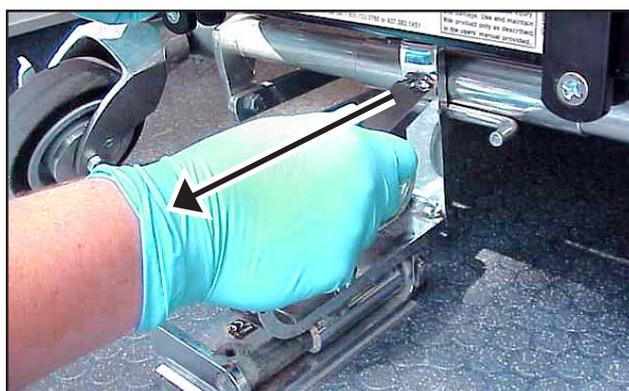

Figure 6 - Disengaging Rear Hook
4. Engage the rear hook (Figure 6).
1. Squeeze the release handle (Figure 2, page 9) and slide the rear hook away from the foot end of the cot (Figure 6).